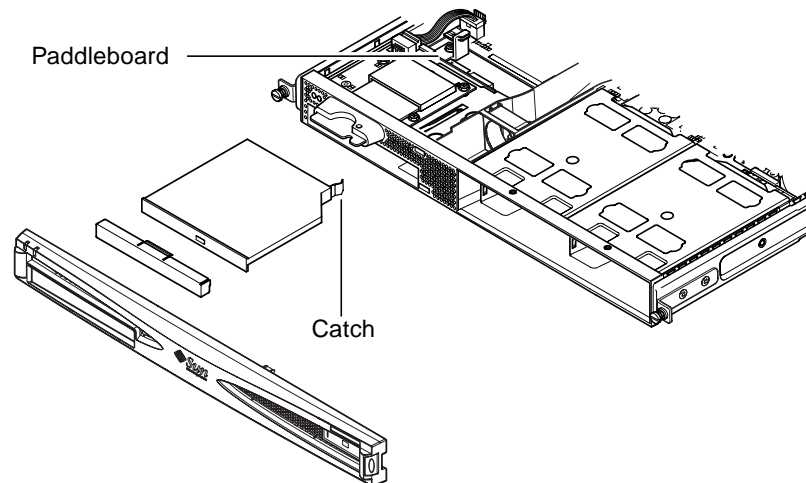

FIGURE 4-5 Installing an Internal DVD or CD-ROM Drive
5. **Carefully insert the DVD or CD-ROM drive into the chassis (see FIGURE 4-5).**
Make sure that the catch at the rear of the DVD or CD-ROM drive clicks onto the chassis. Guide the drive in so that its connectors align with, and then engage with, the connectors on the paddleboard (see FIGURE 4-5) at the back of the drive's enclosure in the chassis. You may need to hold the paddleboard by the black IDE connector to guide the DVD or CD-ROM drive home.